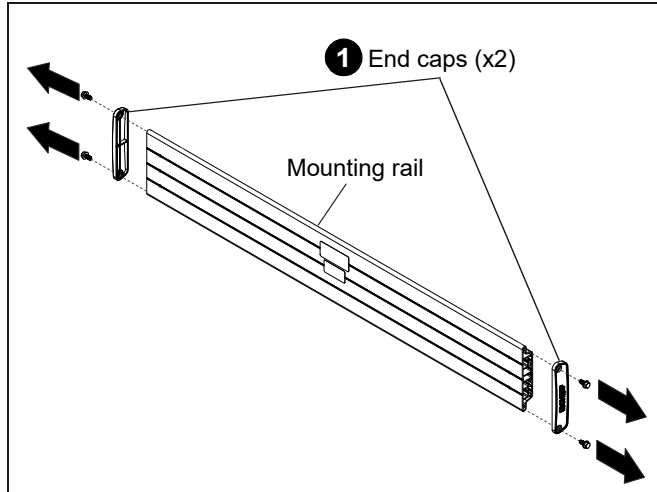

Figure 1
1. Remove both end caps from the ends of the mounting rail included with floor support mount. (See Figure 1)